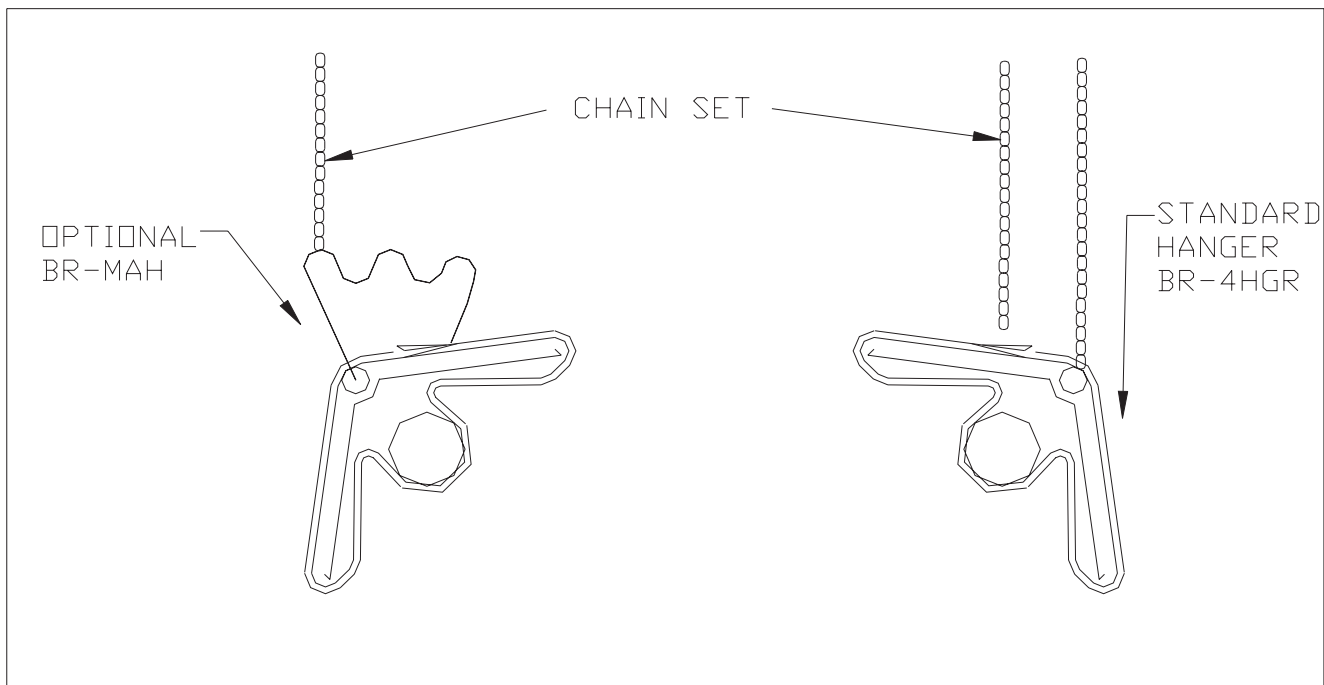

Figure 2.3.3
5. The suspension chains must be installed so that they are perpendicular to the heater. When mounting reflectors at 0 degrees one chain per hanger is required. When angle mounting the reflector two chains are required or one chain and a BR-MAH. Figure 2.3.3